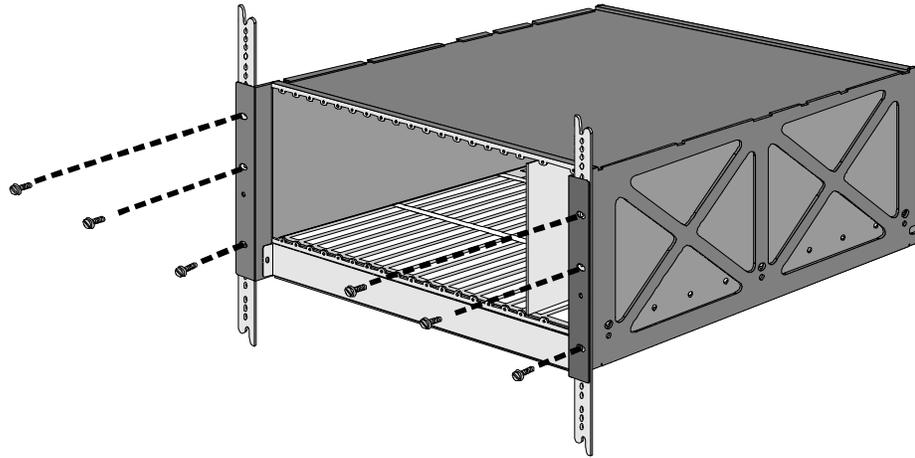

Figure 7. Typical 19-inch Equipment Rack Installation
- 1 Slide the chassis into the rack. See Figure 7.